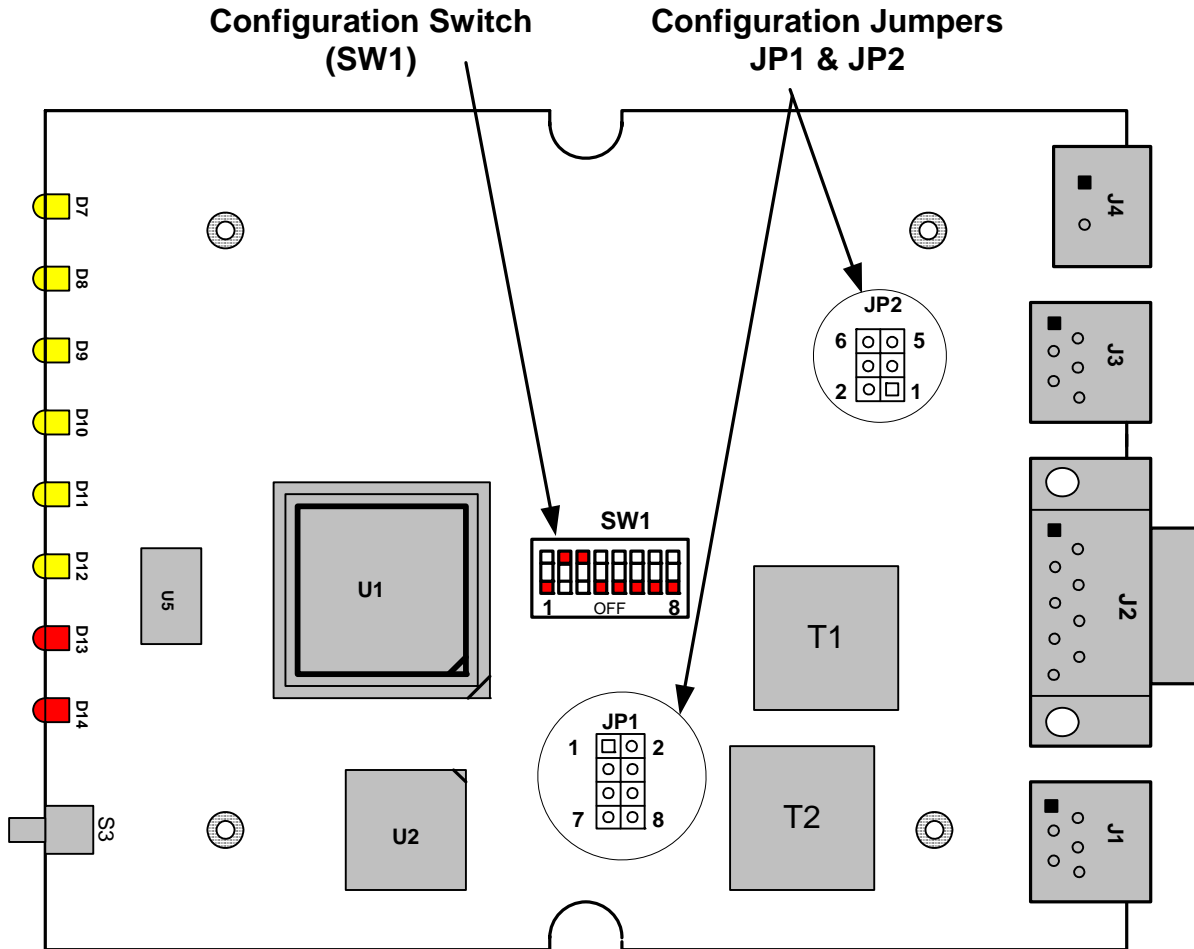
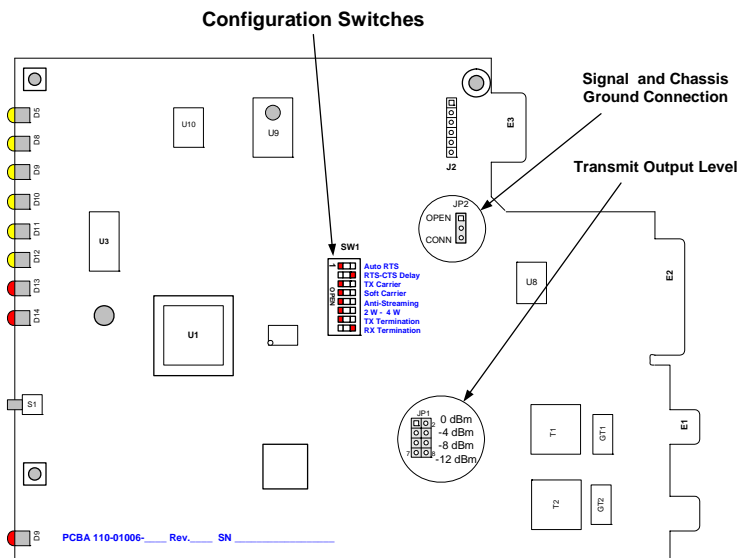

Figure 2-4. IG202T & IGV23 Stand-alone Modem Board
Figure 2-5. IG202T & IGV23 Rack-mount Modem Board
2. Use a small Philips screw driver to remove the two screws at the bottom of the enclosure and remove the top cover. The location of the DIP switches and jumpers for the stand-alone modem are shown in Figure 2-4. For DIP switches and jumpers on the rack-mount plug-in module, see Figure 2-5.